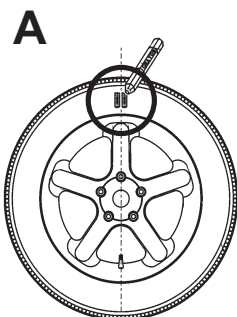

Figure 38
- Readjust the wheel following the right direction indicator and make a double mark on the right side of the tire exactly perpendicular to and above the main shaft (Fig. 38).